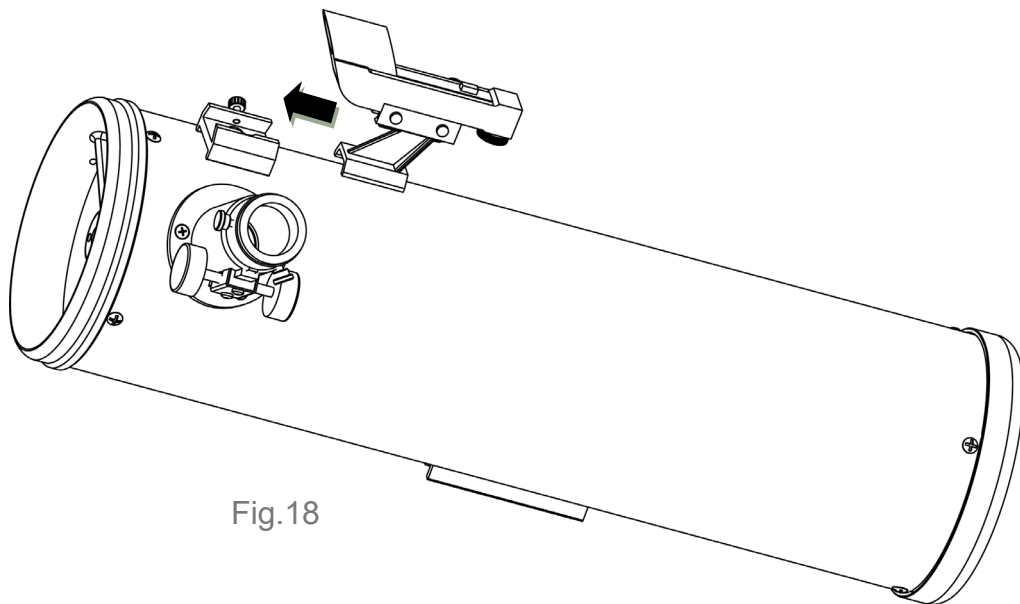

Fig.18
2. Attaching the Red Dot Finder (Fig.18)